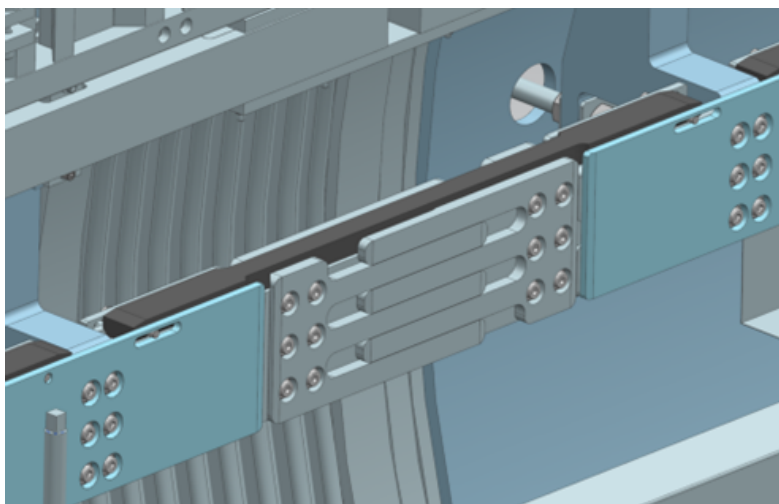

Figure 14: Track transition of orange safety track.
- Transition gap in the direction of travel: also 0 - 84 mm, but the track geometry allows for continuous support, given that the vehicle-side support is sufficiently wide (see Figure 14)
- Transition gap in the direction of travel: also 0 - 84 mm, but the track geometry allows for continuous support, given that the vehicle-side support is sufficiently wide (akin to Figure 14)